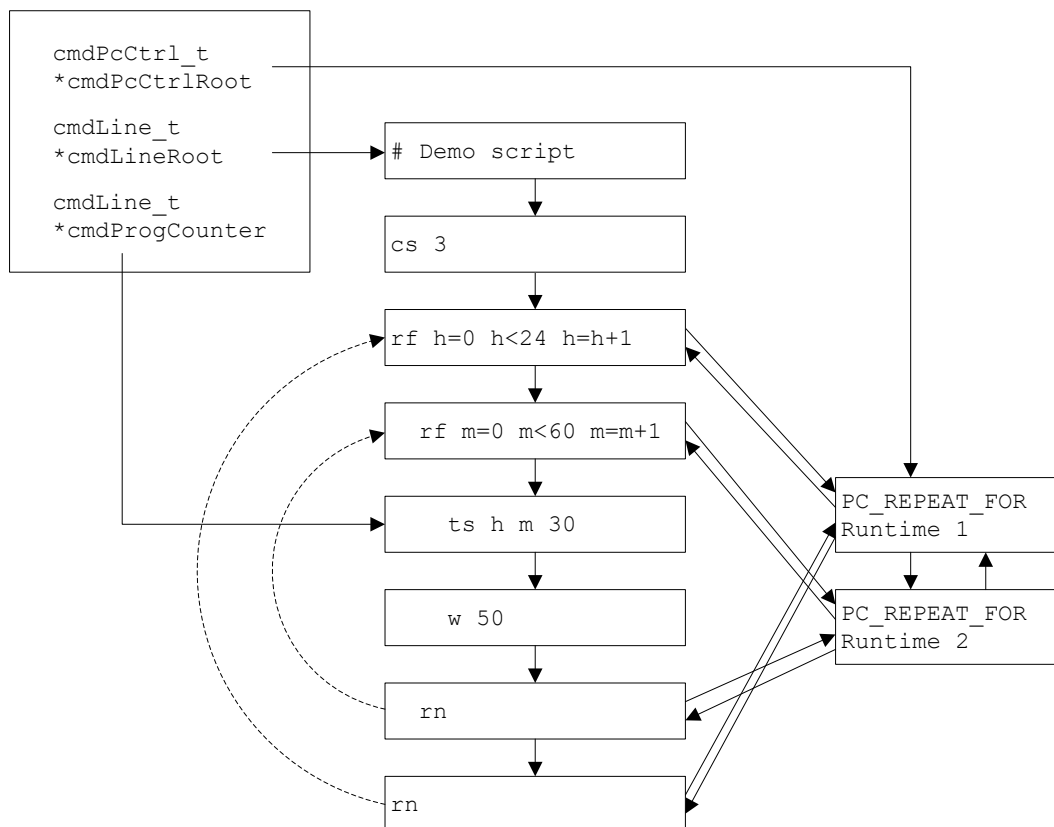

Figure 11: Creating and executing an mchron command list
Using the demo script of the first method as an example, upon entering the 'e' (execute) command the following will take place as depicted in figure 11 below.
- In `doExecute()` function `cmdListFileLoad()` is called to load the file contents into linked list structures as depicted in figure 11 above. Part of loading the file is matching each line with its associated command dictionary entry. Also, the integrity of the command list is checked by matching each 'rf' command with an 'rn' command. When an unknown command is encountered or repeat commands cannot be matched, file loading will abort.